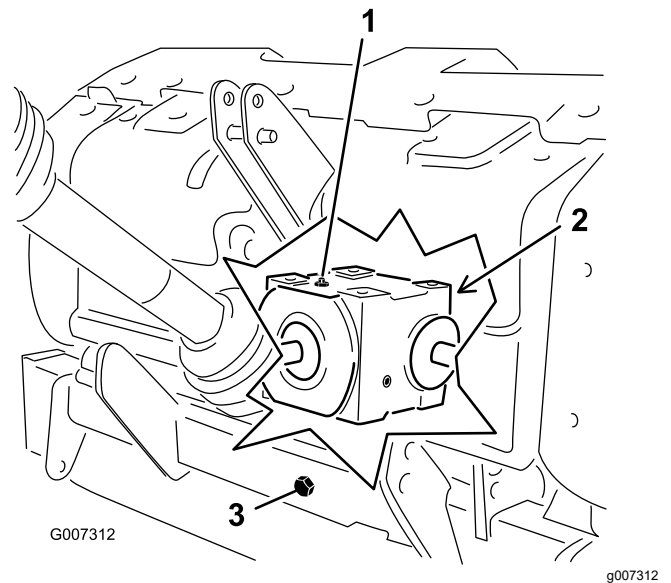

Figure 31
2. Remove the check plug from the gearbox (Figure 31).
3. Make sure that the oil level is up to the bottom of the check plug hole in gearbox (Figure 31).
- 1. Clean debris from the fill plug and the drain cap to avoid contamination (Figure 31).